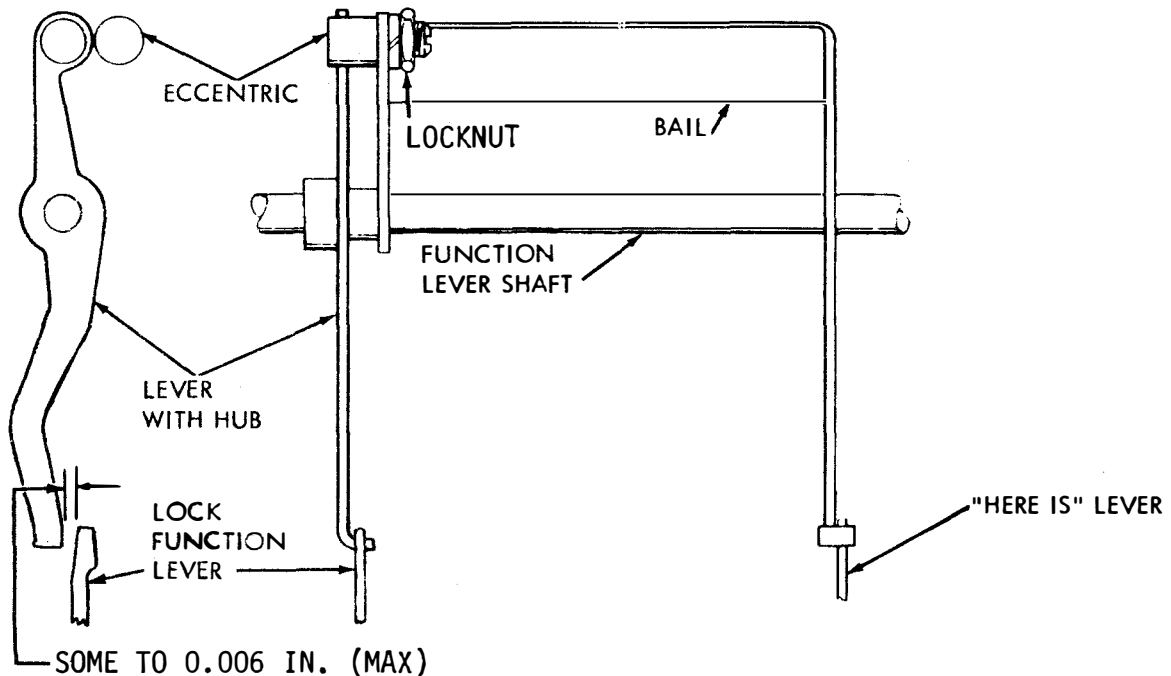

Figure 6-462. Keyboard Lock Bail Eccentric, Top View
(1) Refer to Figure 6-462.
(2) Fully depress both "KYBD LOCK" and "HERE IS" keys and hold tightly.
(3) Clearance between keyboard locklever with hub and keyboard lock function lever should be some to 0.006 inch maximum.
(4) To adjust, loosen locknut and position eccentric with high point toward front of keyboard. Tighten locknut.